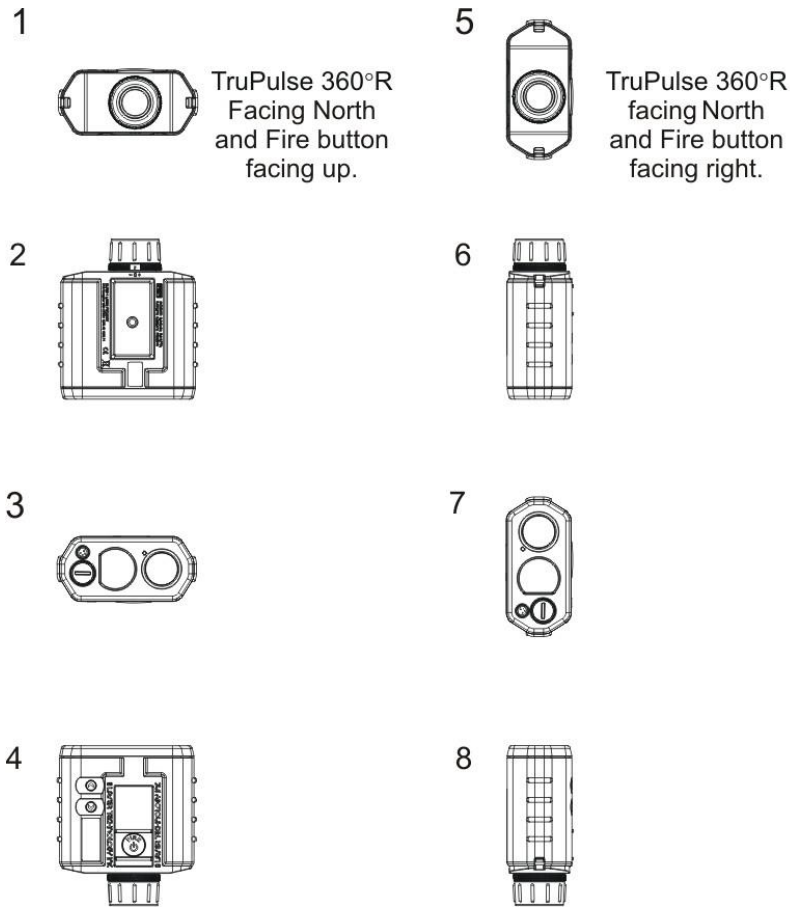

Figure 4. The TruPulse compass calibration routine.
8. Place the TruPulse facing magnetic North (within 15 deg of N) on a relatively flat surface, or hold it while maintaining it flat (within 15 deg of level). To calibrate the compass, follow the sequence outlined in **Figure 4** below. The TruPulse provides confirmation after each step in **Figure 4** is completed by displaying the following: